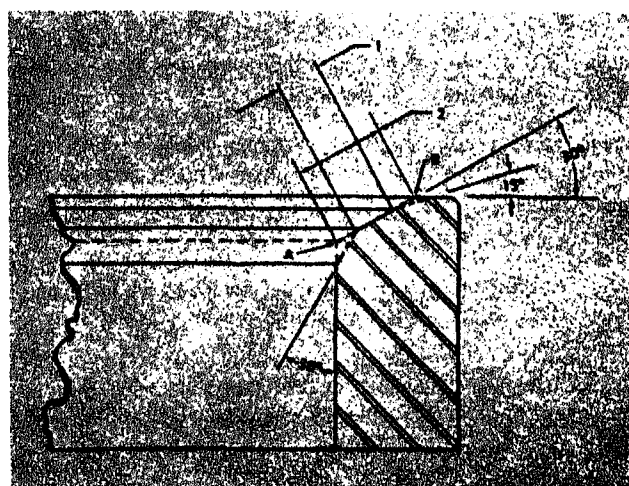

Fig. 2-3-4. Valve seat insert cross-section
5. Check valve seat width which should be 1/16 to 1/8 in. [1.5875/3.1750 mm]. See Fig. 2-3-4.